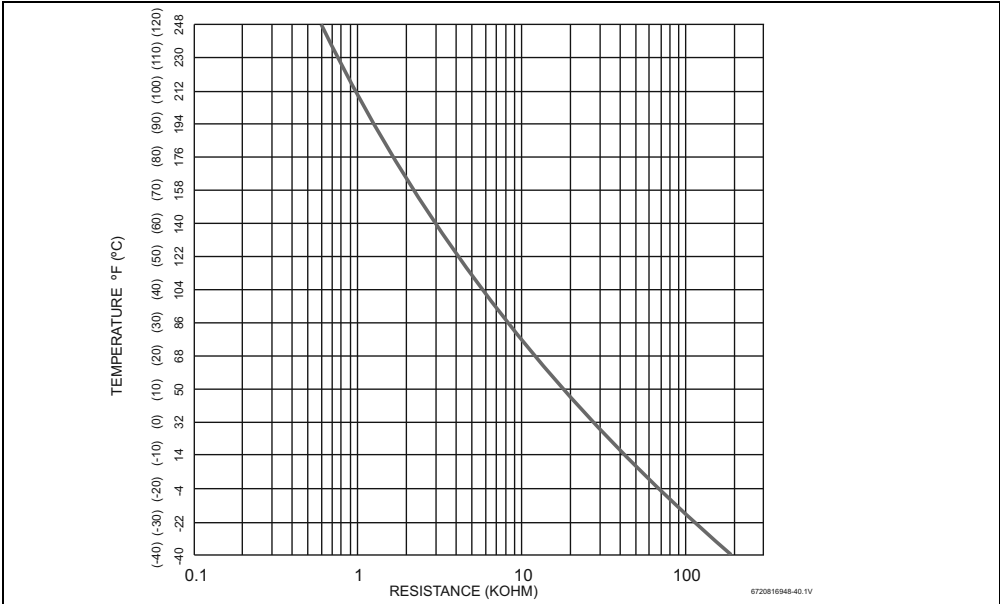

Fig. 69 Inlet, outlet and heat exchanger water temperature sensors characteristics
2) see temperature resistance charts in fig. 69 and 70.